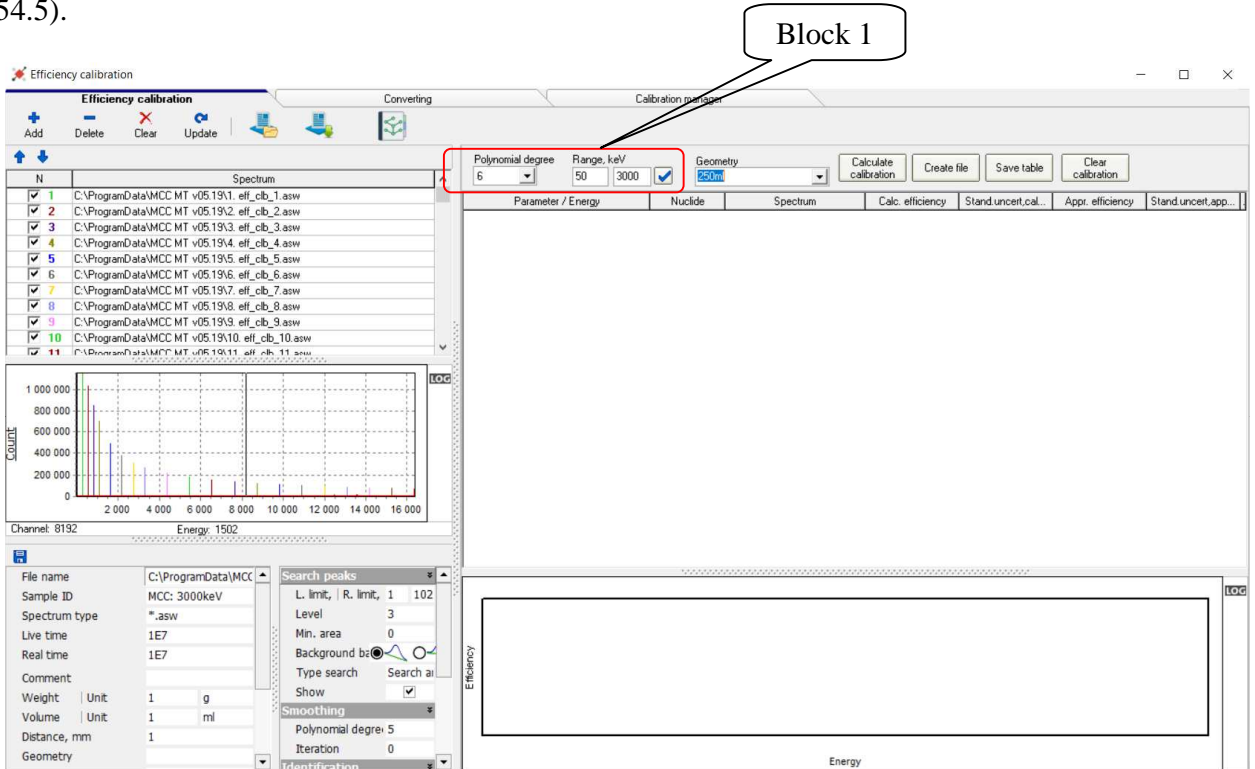
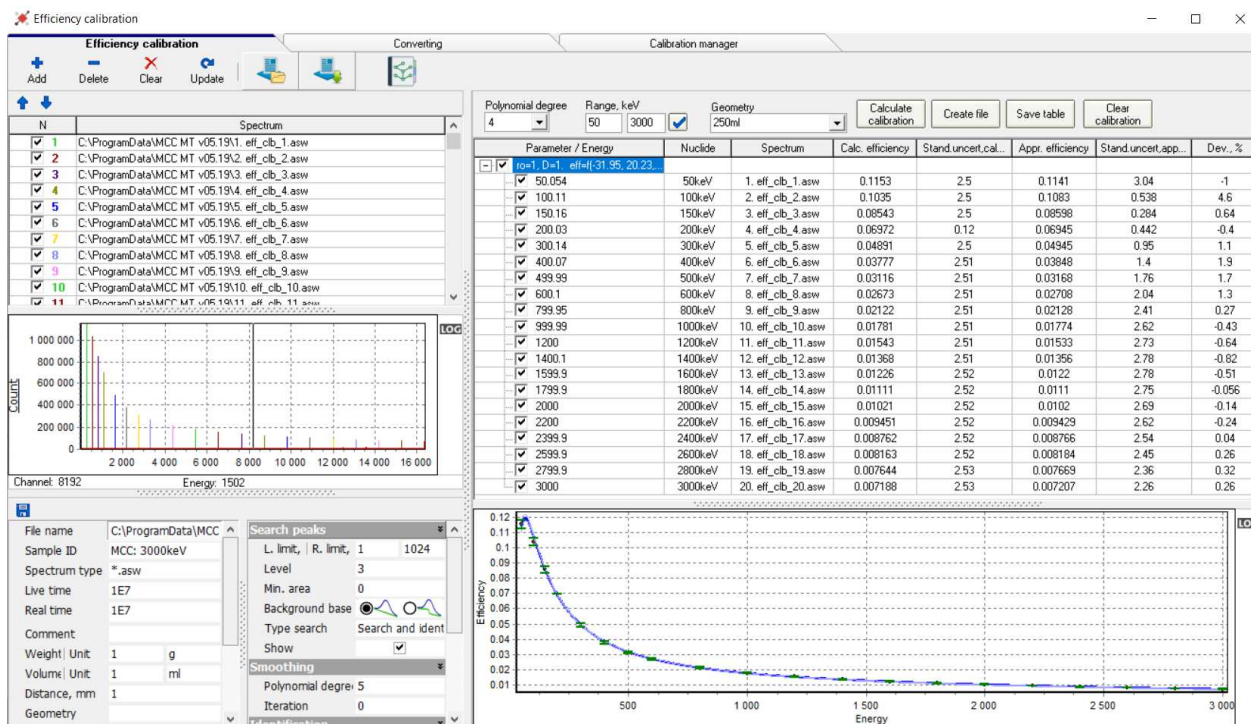

Figure 54.5
Figure 54.6
8.1.4 In the main menu of the "MCC Viewer" module, select the item **Detectors->Efficiency calibration**, after which a new module Efficiency calibration will appear (see Fig. 54.5).
8.1.5 In the module **Efficiency calibration** indicate the energy range for making the efficiency curve and the degree of the polynomial (from 1 to 6) describing the required curve (see block 1, Fig. 54.5). Then press the button **Calculate calibration**, after that the required dependence will be built, and the results will be displayed in the table (see Fig. 54.6).
8.1.7 For possibility of further work with the current set of spectra it is possible to create an efficiency file project. To do this, press the button  in the toolbar (see Fig. 54.6) and enter the name of the current project and the path to the directory to save it.
8.2.8 After the library files are specified for each spectrum, then the energy range for plotting the efficiency curve and the degree of the polynomial (from 1 to 6) describing the required curve are indicated (see block 1, Fig. 54.5). Then it should press the button , after that the desired dependence will be built (see Fig. 54.12, block 1) in the form of a graph (see Fig. 54.12, block 1), and the results will be displayed in the table above it.